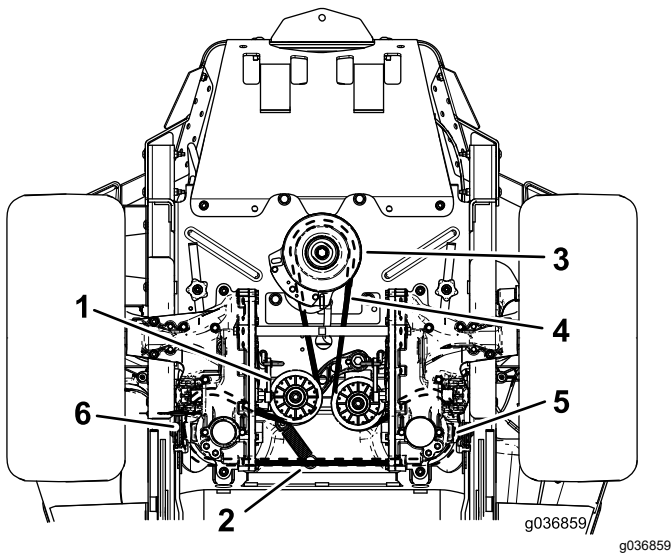

Figure 57
- Raise the machine and support it with jack stands (Figure 57).
- Remove the idler spring from the post (Figure 57).
- Install the new belt around the engine pulley and the 2 hydraulic-pump pulleys (Figure 57).